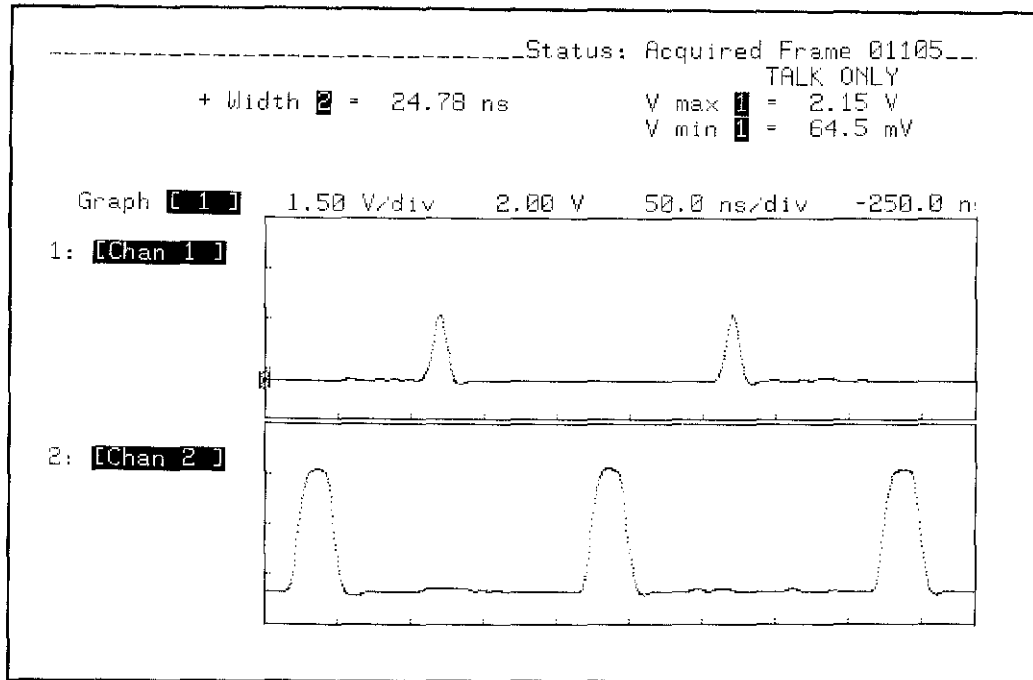

Figure 3-32. DISPLAY Configuration and Clock Pulse Width Test Waveforms
10. Configure the display as shown in figure 3-32. Observe the two waveforms displayed on the HP 54201D. The two waveforms should appear similar to those shown in figure 3-32.